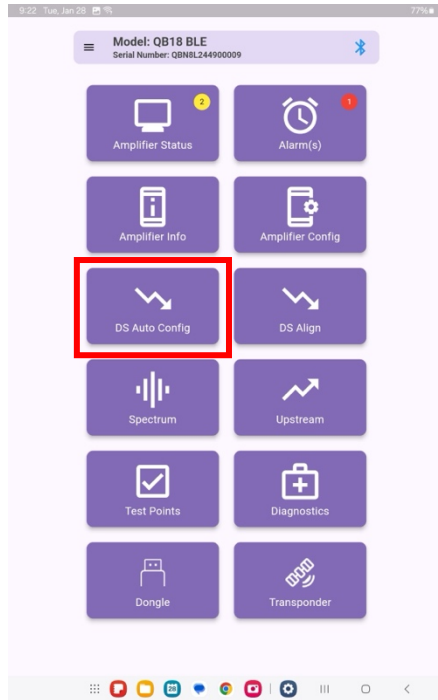

Figure A- 15: DS Auto Config Tile
6. Select the DS Auto Config Tile. Figure A-15.